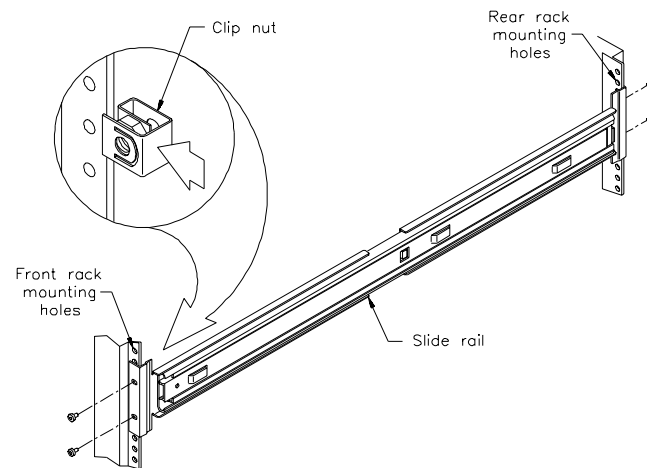

Figure 1-4 Attaching the slide rails
2. If the rack does not have threaded holes, attach the eight clip nuts over the holes (see Figure 1-4).
3. Using a T-25 TORX driver and eight 10-32 \times 0.5 screws, attach, but do not tighten, the slide rails to the rack (see Figure 1-4).